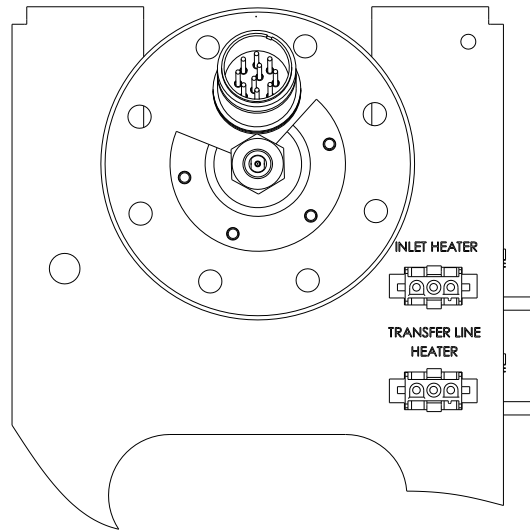

Figure 27: Ionizer Flange
6. Unplug the heater, which is bolted to the ionizer flange and plugged into a plastic connector directly behind the ionizer, Figure 27, page 51